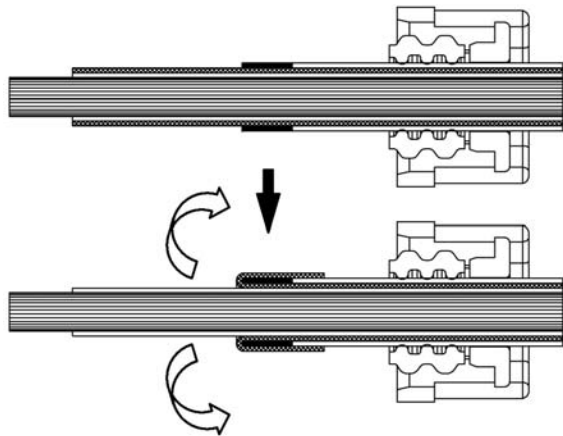

Figure 6
- Fold the braided cable shield back over the inner ferrule as shown in Figure 6.